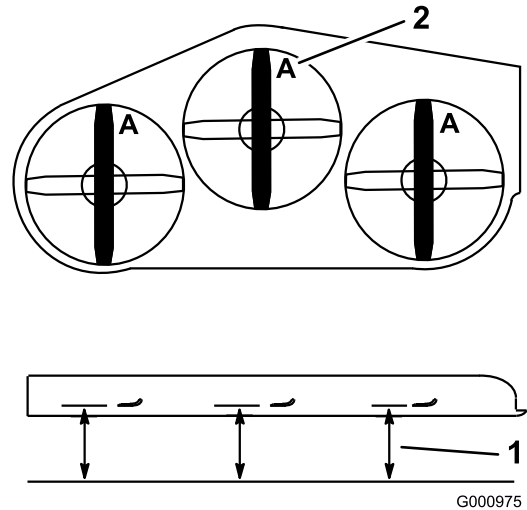

**Figure 97**
1. Inspect the cutting edges (Figure 97).
4. If you notice any cracks, wear, or a slot forming in this area, immediately install a new blade (Figure 97).